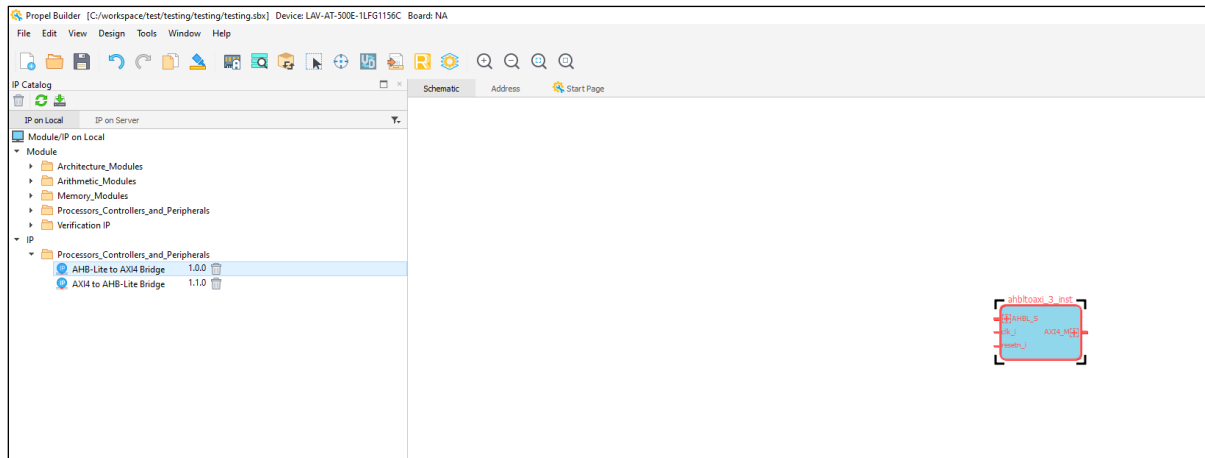

Figure 4.4. Schematic Window
- The generated IP will appear as a block diagram in the Schematic window. Connect it to the rest of the components in your system as shown in Figure 4.4.